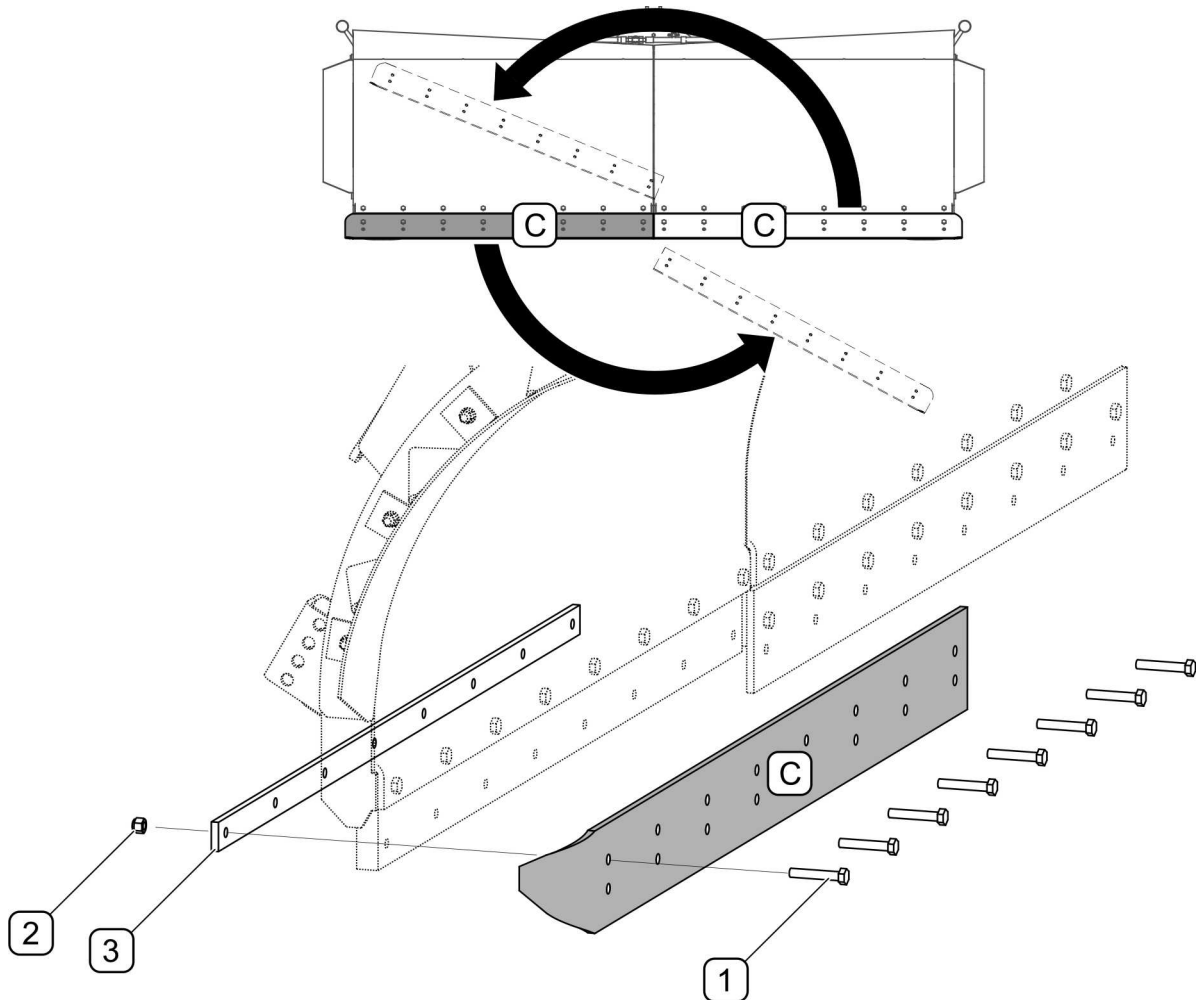

FIGURE 5.5 Replacing metal collecting strip
To remove the metal collecting strips (FIGURE 5.5) undo the nuts (2), remove fixing bolts (1), remove clamping strip(3) and collecting strip (C). If the bottom of metal collecting strips is worn down, they can be reversed and swapped, ie. collecting strip of the right blade is swapped with the collecting strip of the left blade. When both collecting strips are worn or damaged, they must be replaced.